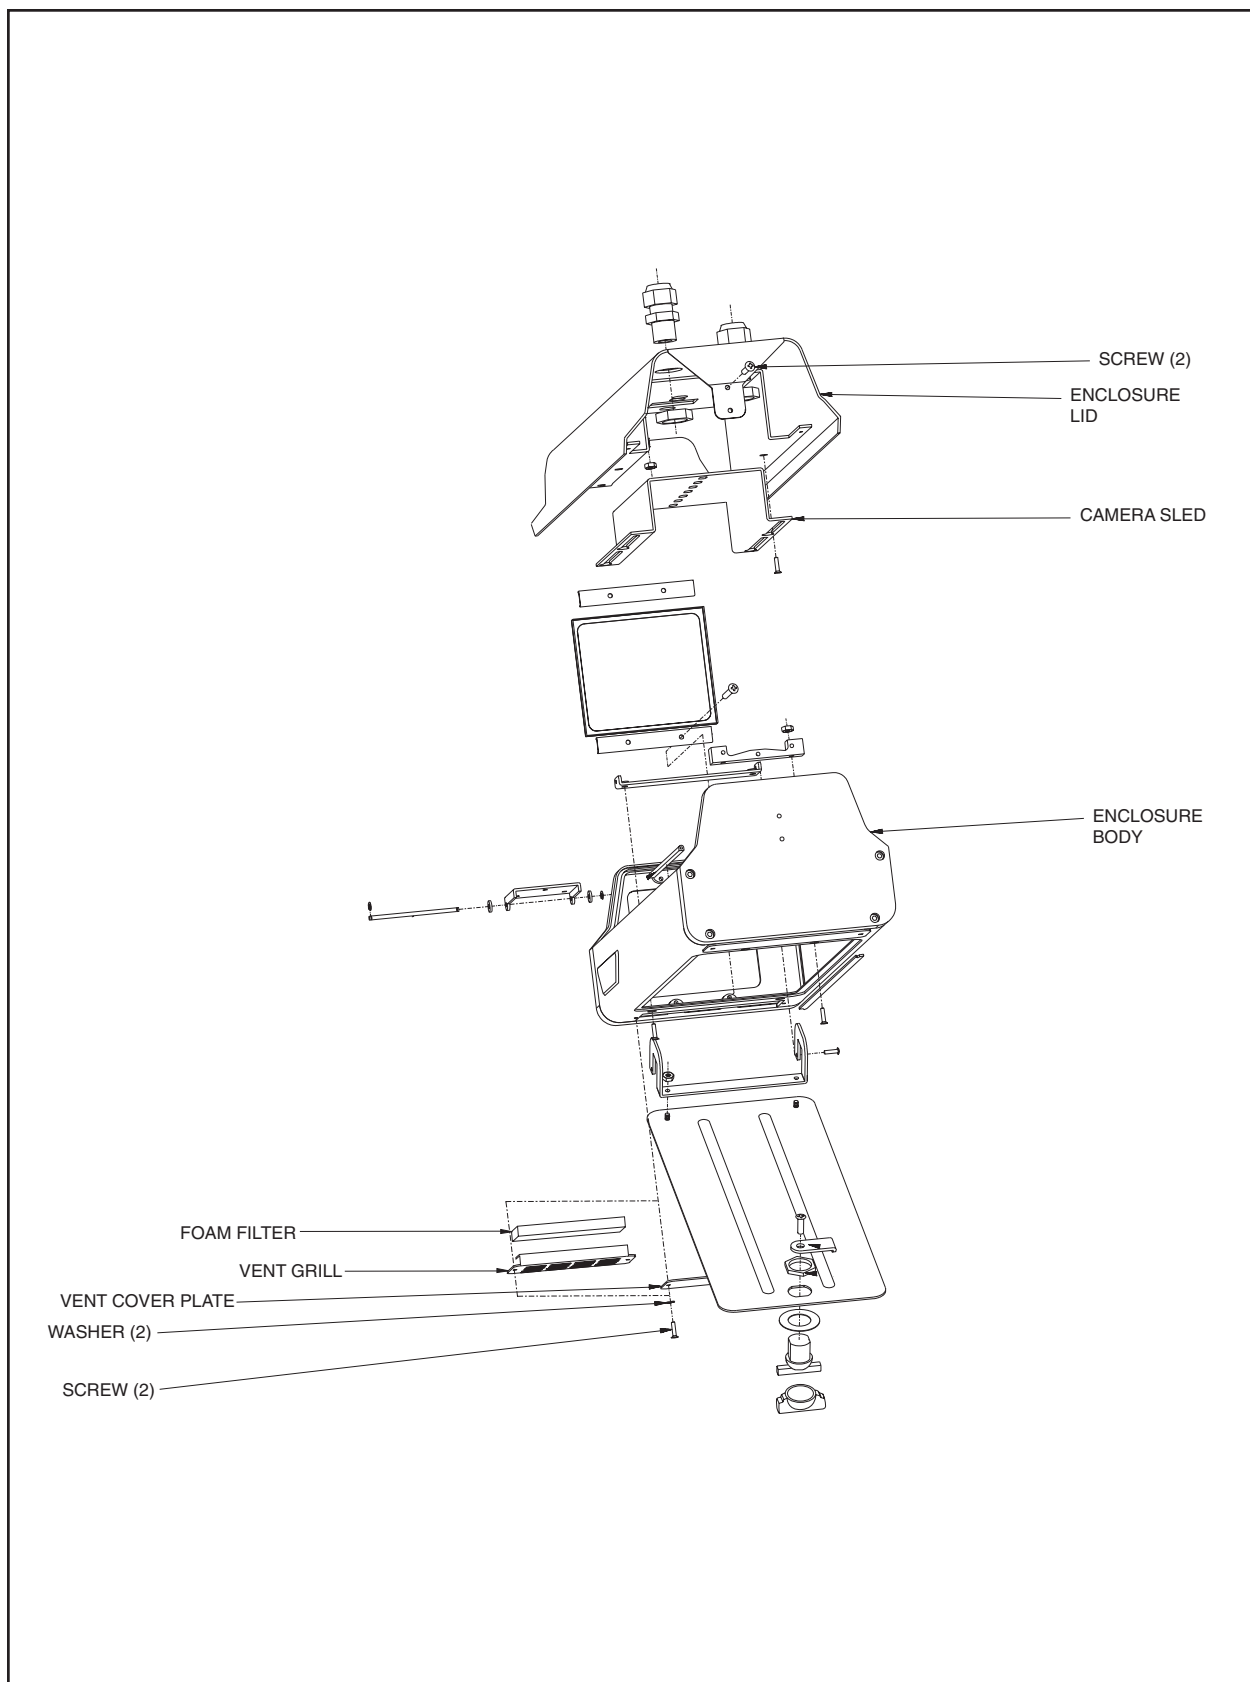

Figure 1. EH4712DB/EH4718DB Exploded Assembly Diagram
2. Remove the camera sled from the rail (refer to Figure 1 for the location of the camera sled):
To install the enclosure in a marine or high-moisture environment, make the following modifications to the enclosure (refer to Figure 1):